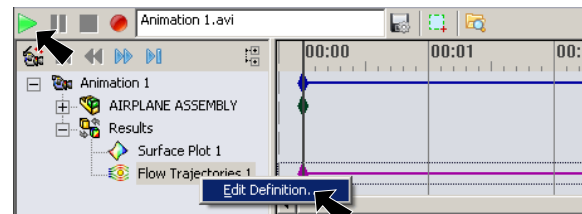

Fig. 34
Step 4. Click **Play**  in animation control panel, Fig. 34.
Step 5. **Right** click **Flow Trajectories 1** in the Animation tree and click **Edit Definition**, Fig. 34.
Step 7. Click **Play**  in animation control panel, Fig. 34.
Step 8. Experiment with other Flow Trajectories setting. To change setting, **right** click **Flow Trajectories 1** and click **Edit Definition**, Fig. 34.